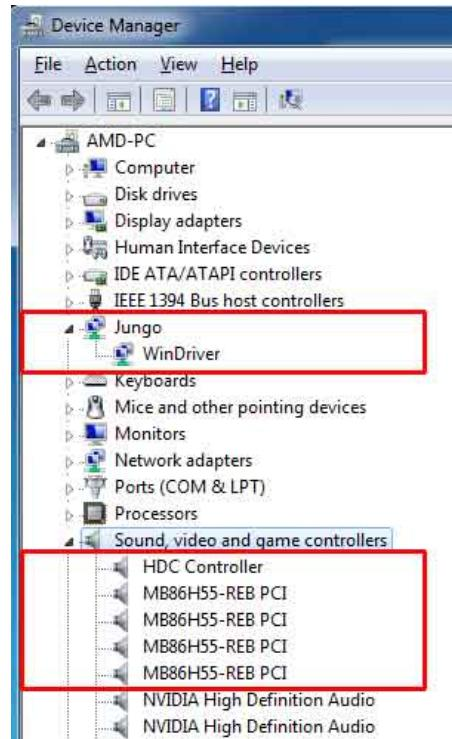

Figure 1-6: Device Manager
Step 9: Check the device manager in the Windows control panel to ensure the driver (MB86H55-REB PCI, HDC controller and WinDriver) has been properly installed. The installed driver is slightly different on different models. See **Figure 1-6** for the details.